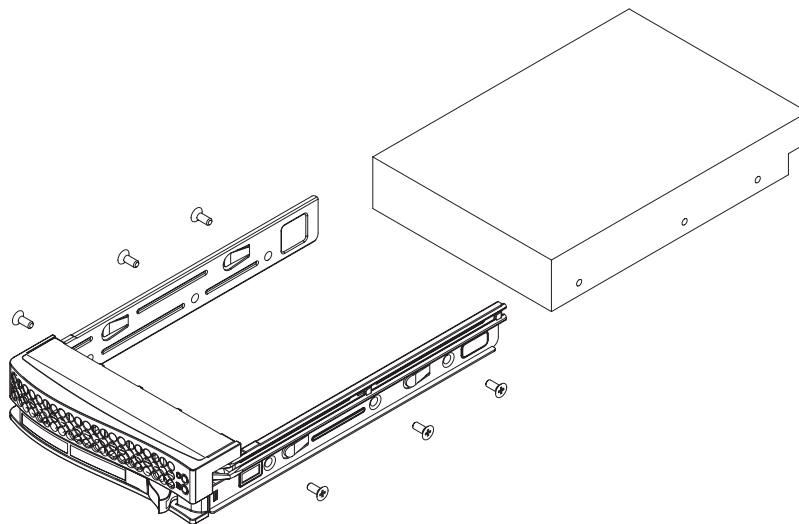

Figure 6-2 Mounting a Drive in a Carrier
Six 8-cm hot-swap fans provide the cooling for the system. It is very important that the chassis top cover is properly installed and making a good seal in order for the cooling air to circulate properly through the chassis and cool the components. See Figure 6-2.
2. Secure the drive to the carrier with the side-mounting screws, see the example in Figure 6-2.